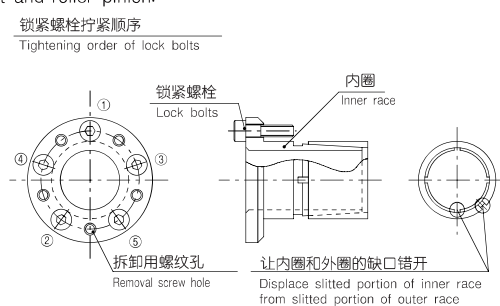

图2 / Fig. 2
3. 把涨紧套的外圈插入滚轮后, 按照先在轴上安装滚轮, 然后安装涨紧套内圈的顺序进行装配。这时, 请注意让涨紧套内圈和外圈的缺口错开。(图2)
6. 调整后, 按照对角线的顺序 (参照图2), 以规定拧紧扭矩的大约1/4均等的拧紧, 逐渐增加拧紧扭矩来拧紧螺栓。
After the adjustment, fasten the lock bolts diagonally (Fig.2) and uniformly starting at 25% or so of the recommended tightening torque with gradual increase.